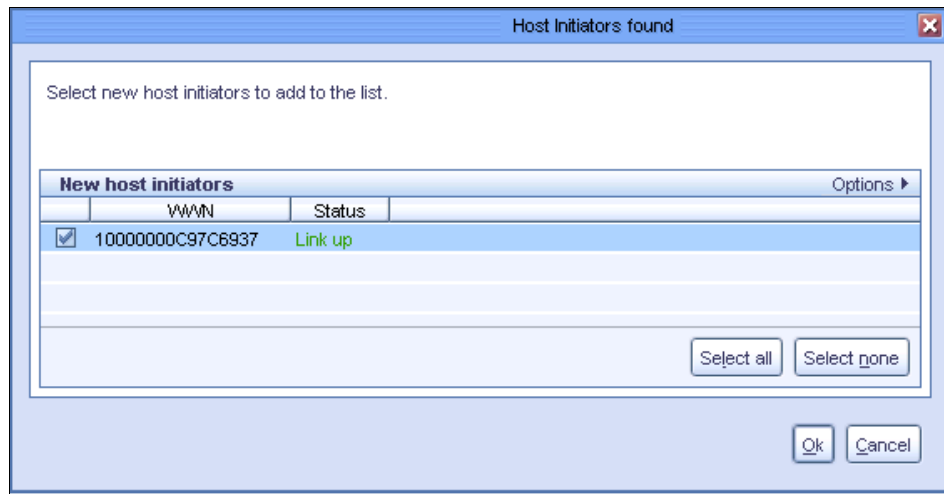

Figure 6-14 Host Initiators found window
8. The list of Host Initiators is displayed, as shown in Figure 6-14. Select the Host Initiators you want to add to the LUN Masking group from the list displayed and click **OK**.